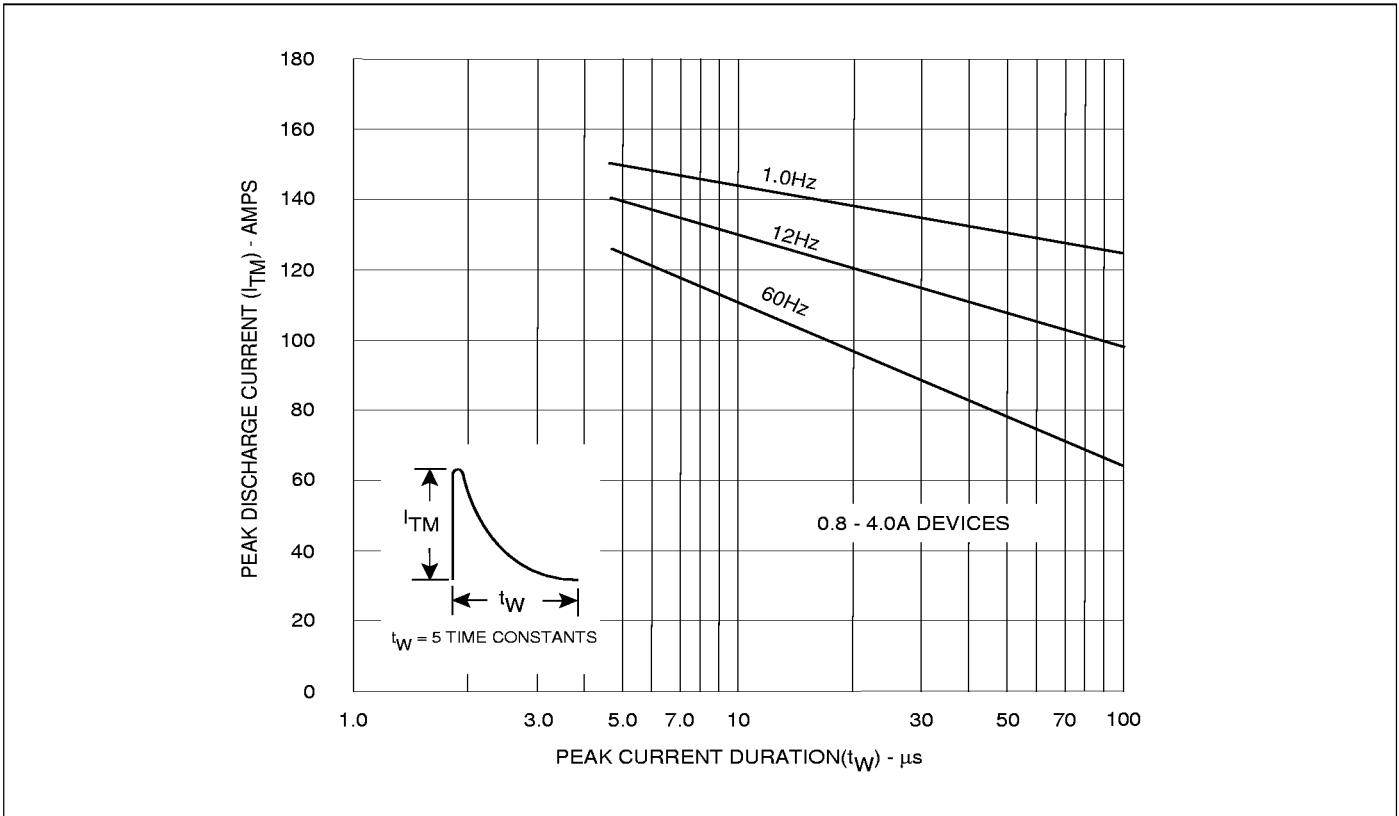

Figure 5.20 Peak Repetitive Capacitor Discharge Current
- 0.8 - 4.0A devices also have a pulse peak forward current on-state rating (repetitive) of 75A. This rating applies for operation at 60Hz, $75^\circ C$ maximum tab (or anode) lead temperature, switching from 80V peak, sinusoidal current pulse width of $10\mu s$ minimum, $15\mu s$ maximum. See Figures 5.20 and 5.21.